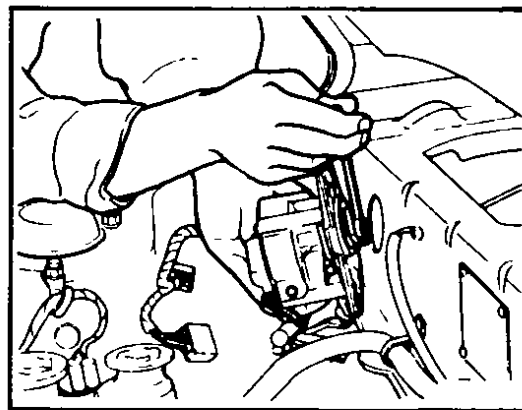

Fig 85 Removing motor shaft connecting nut
- 6 Pull the wiper motor assembly outward a little, and disconnect the wiper motor from the wiper linkage at junction, Fig 85